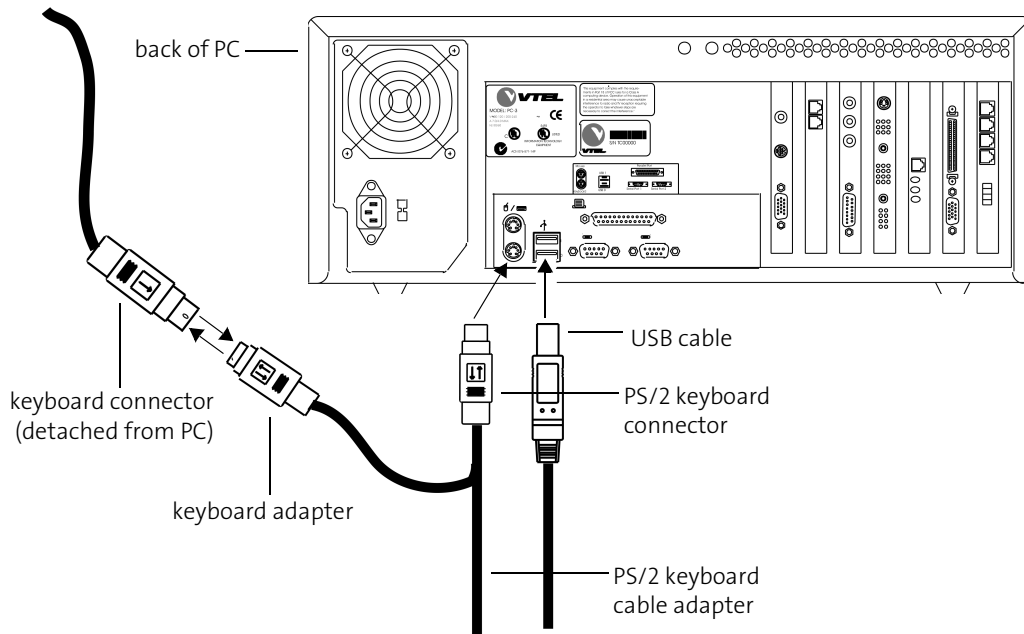

Figure 1-15 Cable connections to back of PC
5. On the back of the computer, connect the USB cable to the USB port located next to the keyboard and mouse ports (Figure 1-15). Unplug your keyboard connector and reconnect it to the appropriate keyboard adapter provided (PS/2 or XT). Then insert the male end of the keyboard adapter into the keyboard port of your computer.